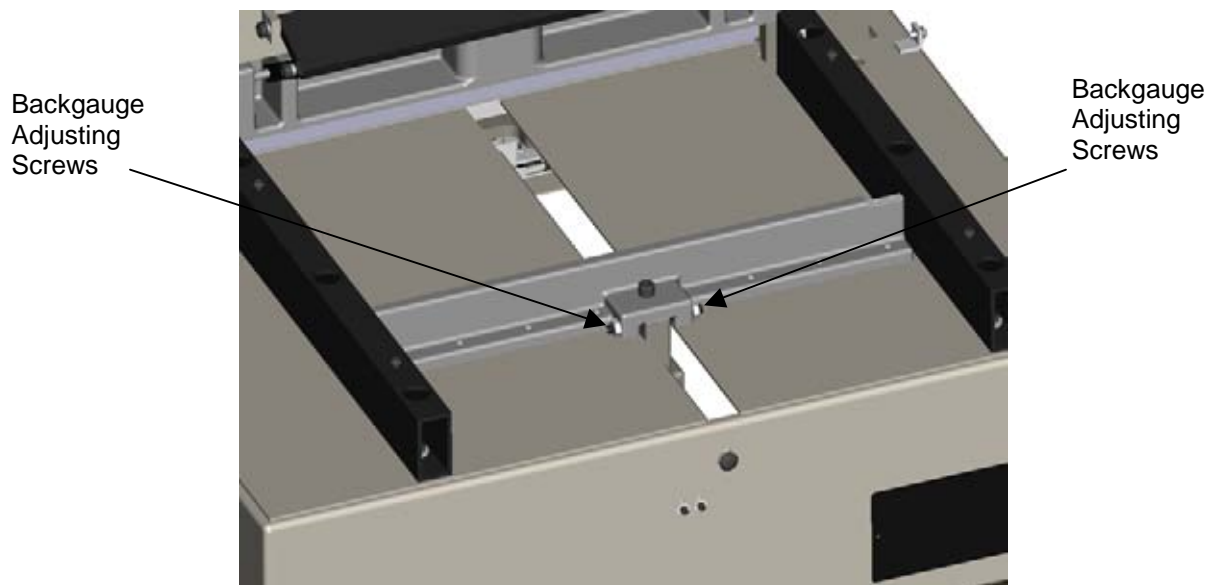

Figure 6
3. Loosen the jam nuts on the backgauge adjusting screws. (Figure 6).